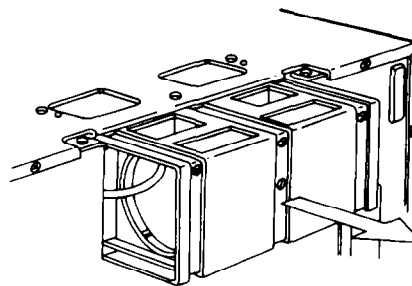

Figure 6
2. Withdraw hood fan unit carefully (Fig. 6).
(Fig. 6 pg. 11).